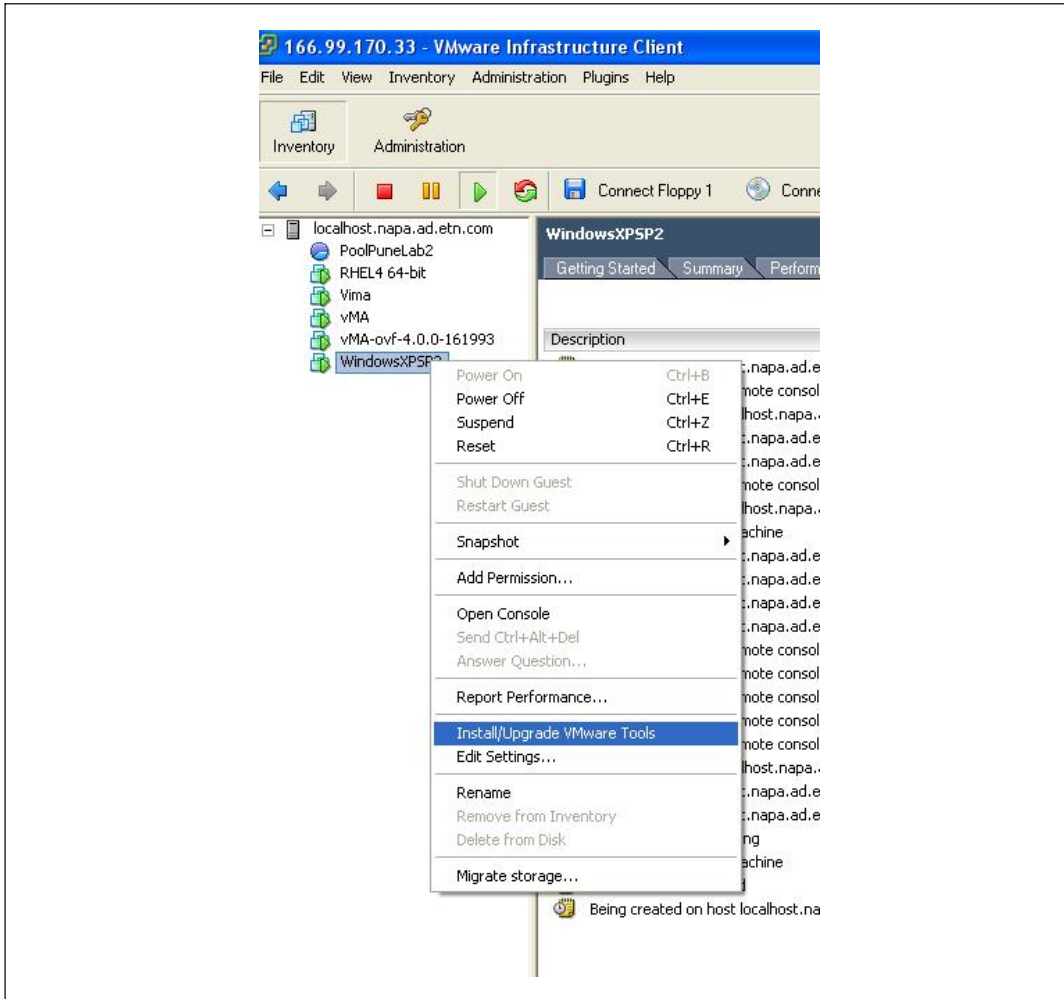

Figure 108. Virtual Machine Template Menu
- 4 Select the template name and then right-click and select **Install/Upgrade VMware Tools** from the menu (see Figure 108).